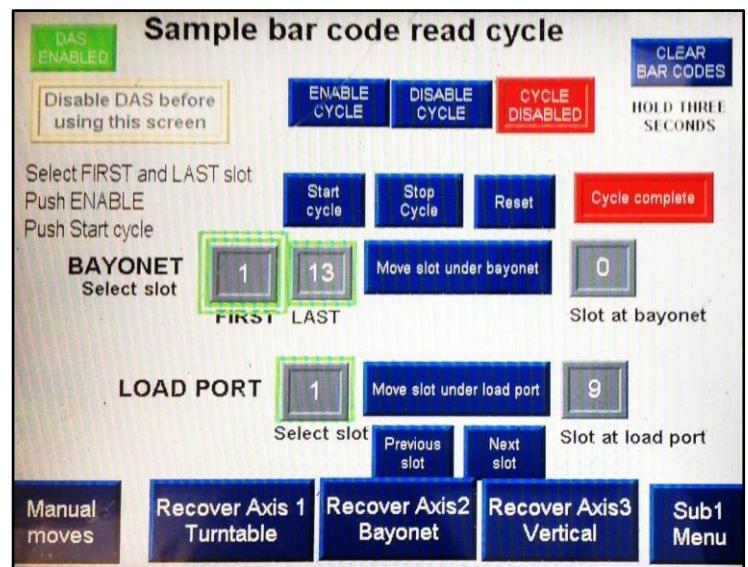

Figure 3. PLC Table Load Cycle screen
- e. On the PLC touchscreen (Figure 3), go to the "Table Load Cycle" screen and disable DAS by pressing the green button in the upper left corner so that it turns red and reads "DAS DISABLED".